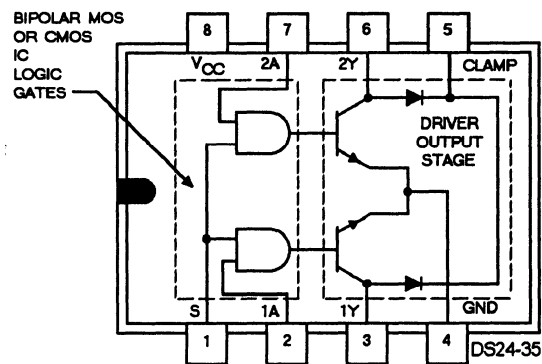

Figure 4-35.—Example of a peripheral driver IC.
- **Peripheral drivers**—Peripheral drivers receive an input from bipolar or MOS logic gate output and drive the output stage so that relatively large output currents can be controlled with low-level logic signals. Peripheral drivers use a single input and output application. They are very useful for driving indicator lamps or drive relays. See figure 4-35.